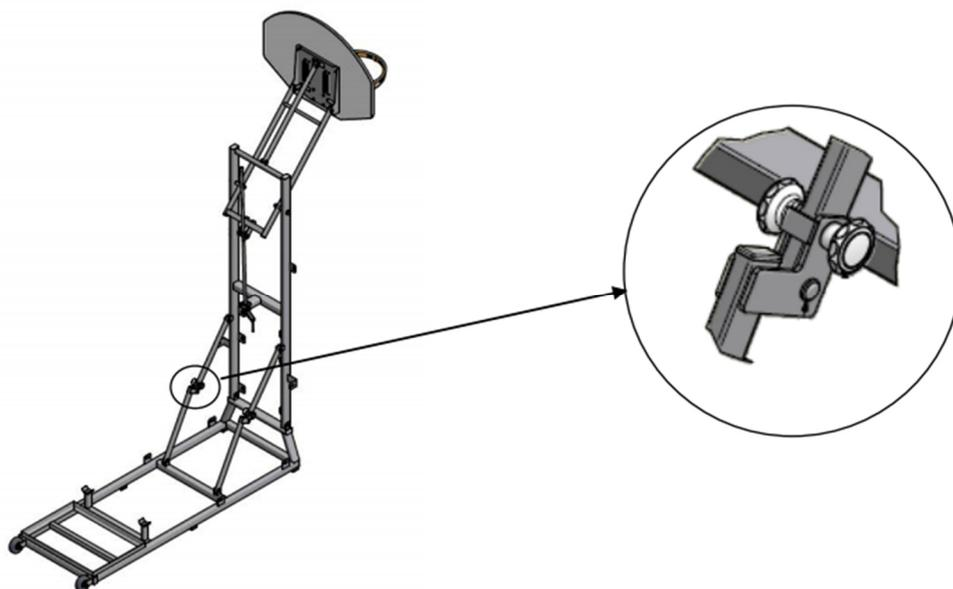

Figure 5: Setting up the frame
- C Lock the articulated joints in place using the handwheels supplied (M10×57), as shown in figure 5. Before using the equipment, the impact protection should be attached with the M10×17 star grip screws. Raise the basketball unit to the desired height by turning the crank.